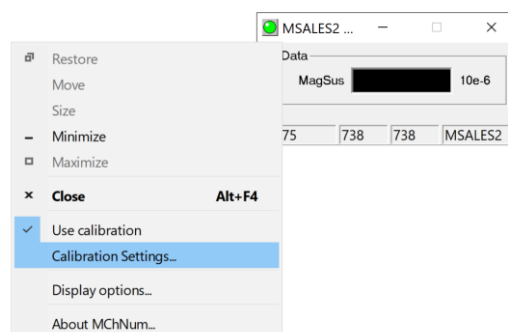

Figure 4-14 Open Calibration Settings window from MChNum
2. In the **Acquisition** panel, turn **Time** sampling **On**. Left click on the Green LED  in the upper left corner of the **MChNum** window and click on **Calibration Settings...** (**Figure 4-14**).